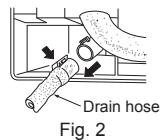

Fig. 2
- The drain hose should point downward for easy drain flow. (Fig. 2)
- Pull out the drain hose at the rear left of the indoor unit. (Fig. 2)